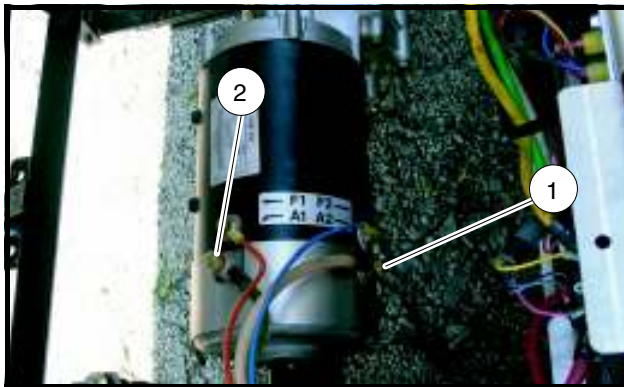

Figure 11-14 Test A1 and A2 Motor Voltage
2. With the batteries connected and using a multimeter set to 200 volts DC, place the black (–) probe on the A2 (1) motor terminal (white wire) and connect the red (+) probe to the A1 (2) motor terminal (green wire) (**Figure 11-14**).